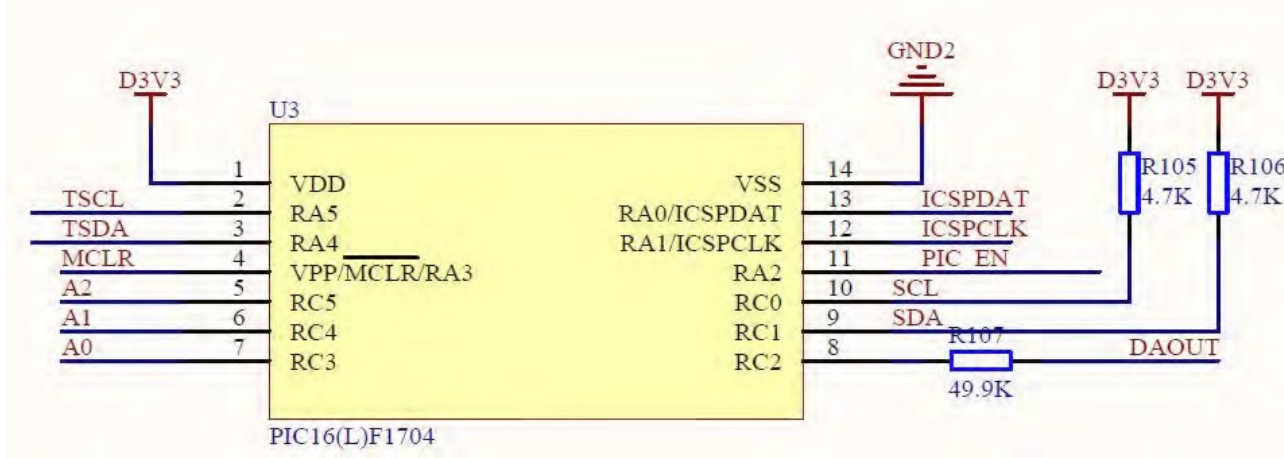

Fig 13. PIC Schematic Diagram
**5. DC-PIC: Composed of PIC16(L)F1704. See Fig 13 and Fig 14:**